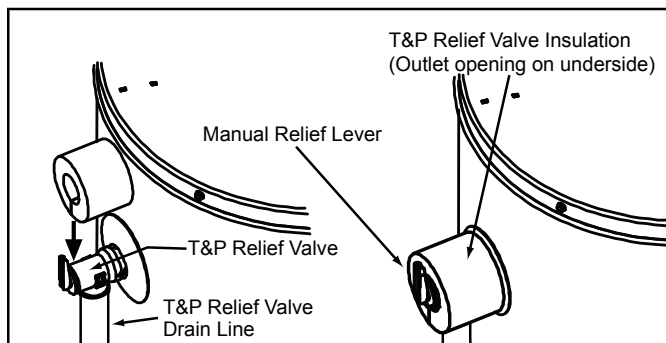

Figure 10
Locate the temperature and pressure relief valve on the water heater (also known as a T&P relief valve) (see Figure 10).
2. Spread the slit open and fit the insulation over the T&P relief valve (see Figure 10). Apply gentle pressure to the insulation to ensure that it is fully seated on the T&P Relief Valve. Once seated, secure the insulation with duct tape, electrical tape, or equivalent.
Important: The insulation and tape must not block the discharge opening or hinder access to the manual relief lever (Figure 10). Ensure a discharge pipe is installed into the T&P valve discharge opening per the instructions in this manual.